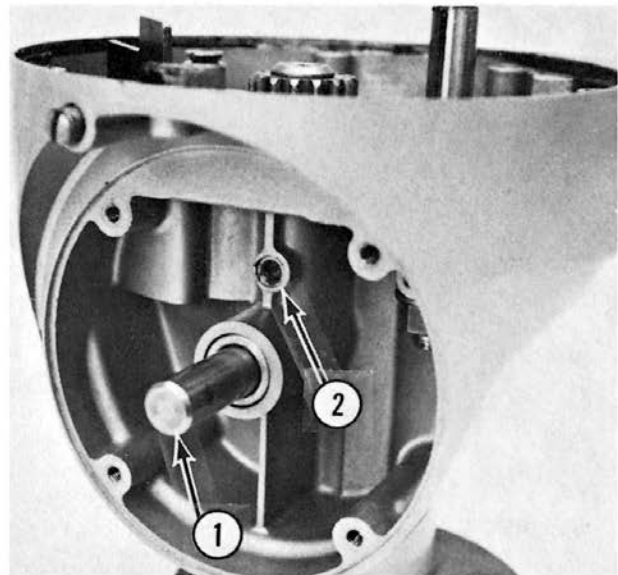
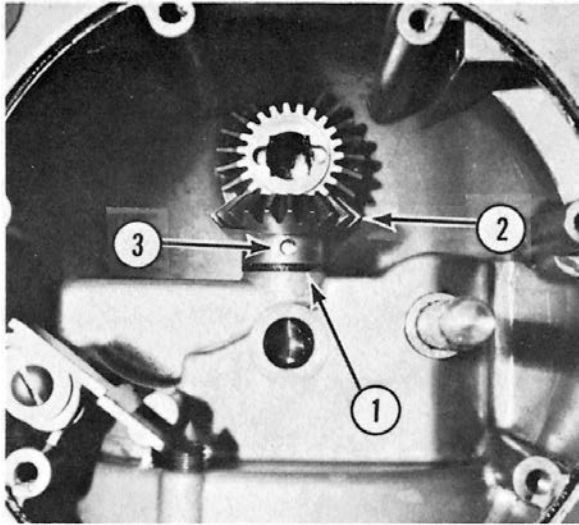

Fig. 3-28
Fig. 3-29
- E. Install the planetary shaft (1, Fig. 3-28), fiber washer(s) (1, Fig. 3-29) and bevel gear (23T) (2, Fig. 3-29), with the large end of tapered holes **UP**.
- F. Push the shaft into the gear until the holes line up. Install the taper pin (3, Fig. 3-29).
- J. Tighten the set screw (2, Fig. 3-28) which secures the lower transmission shaft.